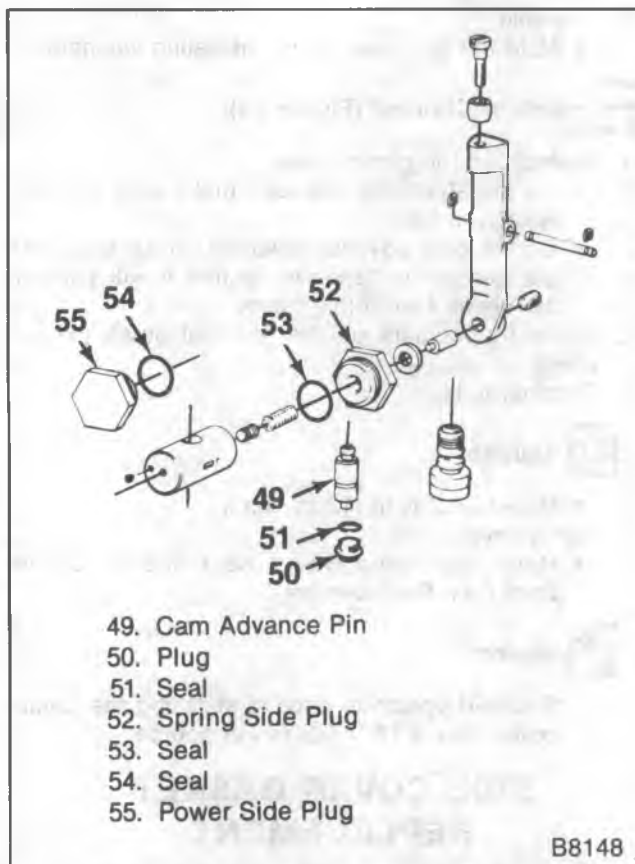

Figure 27—Advance Piston Group
↔ Remove or Disconnect (Figure 27)
↔ Install or Connect (Figure 27)
5. Cam advance pin hold plug (50) (figure 27).
7. Cam advance pin (49) (figure 27).
5. Head locating screw (figure 27).
6. The advance pin (49) (figure 27).